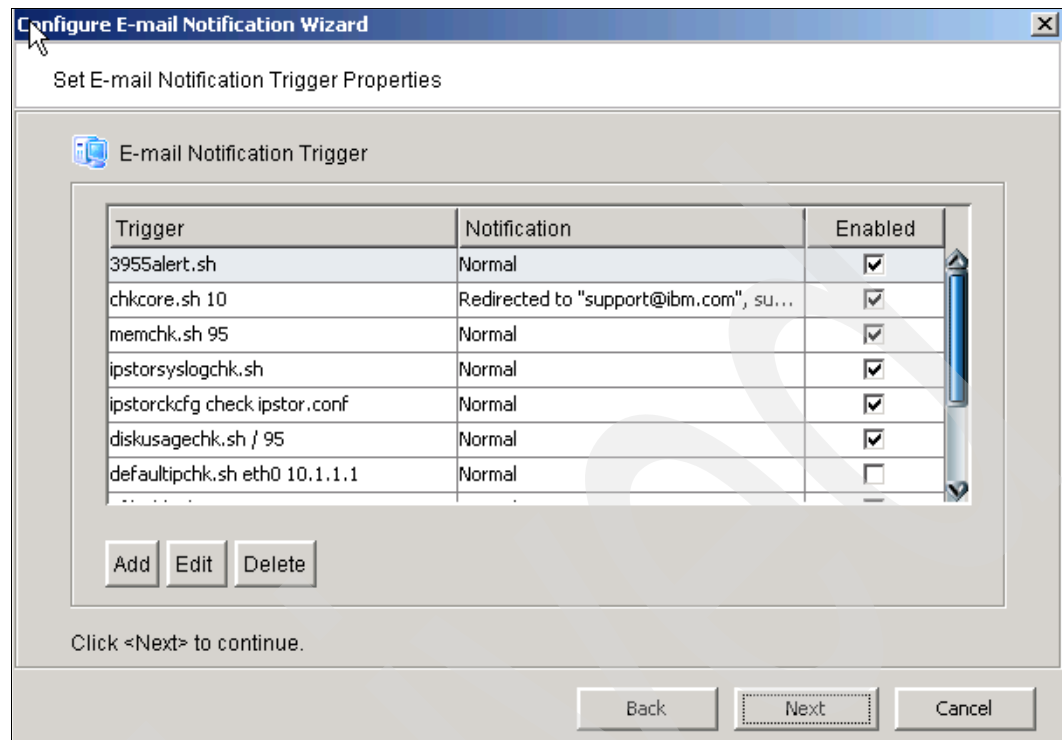

Figure 11-17 Notification trigger scripts
5. Notification triggers are on the next panel (Figure 11-17 on page 372). These are triggers that can be used to control the data that is reported to you via e-mail or to whom you configure to receive the e-mail notifications.